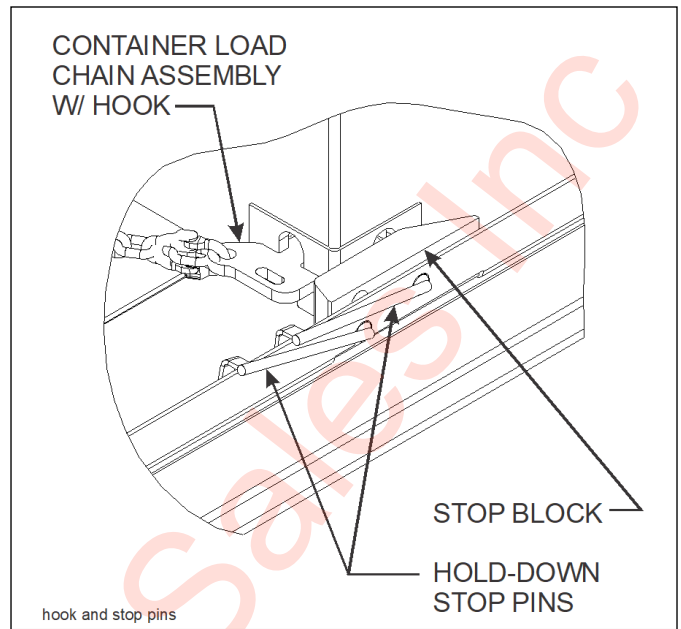

Figure 3-5: Container Load Chain and Stop Pins
- f. Install stop pins in lower front hole of blocks at front sides of trailer (**See Figures 3-5 and 3-6.**)
- h. Insert hold-down pins into rear holes of blocks at front sides of trailer (**See Figures 3-5 and 3-6.**)